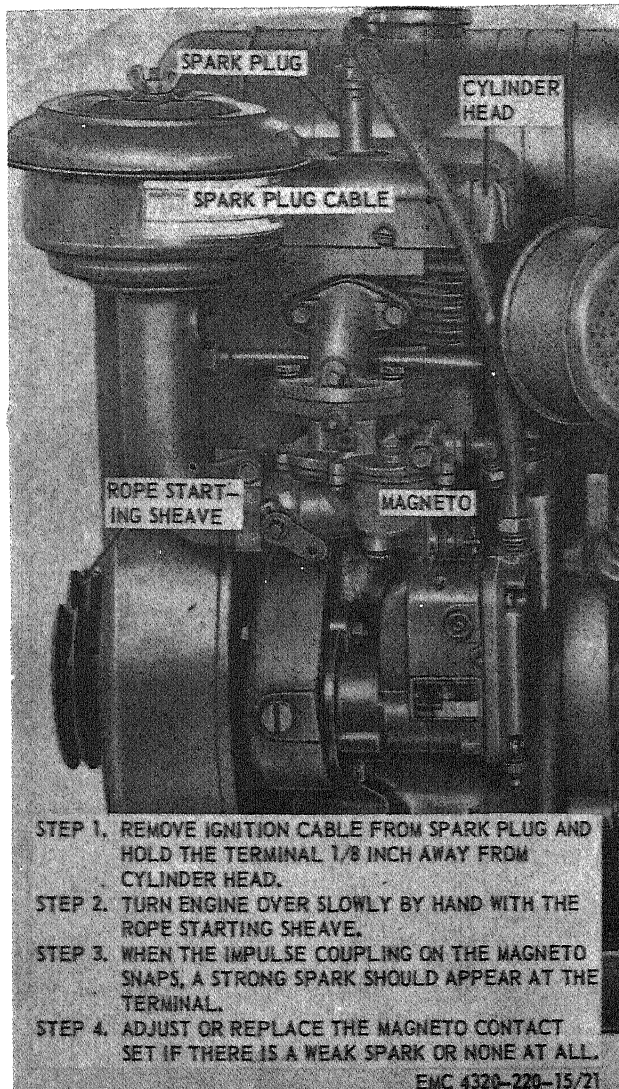

Figure 21. Testing magneto ignition spark.
a. Test the magneto ignition spark as shown by figure 21.